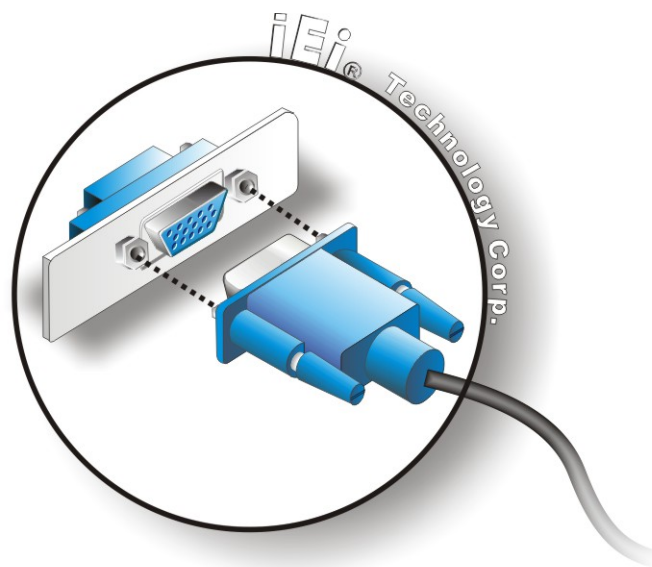

Figure 4-19: VGA Connector
- Step 3:** **Insert the VGA connector.** Once the connectors are properly aligned with the insert the male connector from the VGA screen into the female connector on the KINO-QM670. See **Figure 4-19**.